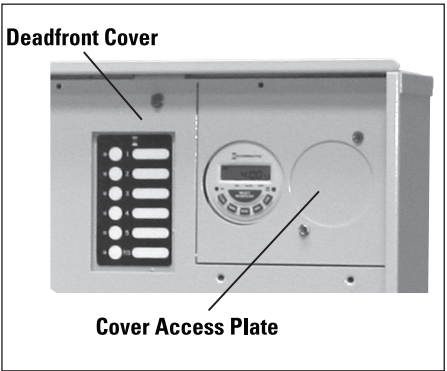

Figure 5-6
- 3. Remove the Deadfront Cover from the panel. (See Figure 5-6.)
- 4. Remove the Cover Access Plate from the second timer hole on the Deadfront Cover. (See Figure 5-6.)